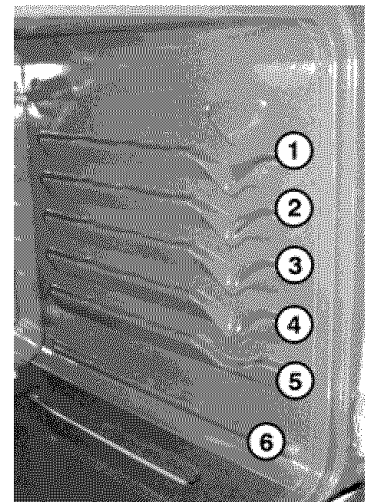

Fig. 2
3. When using 2 oven racks at the same time, place in positions 2 & 5 for best results (See Fig. 2)